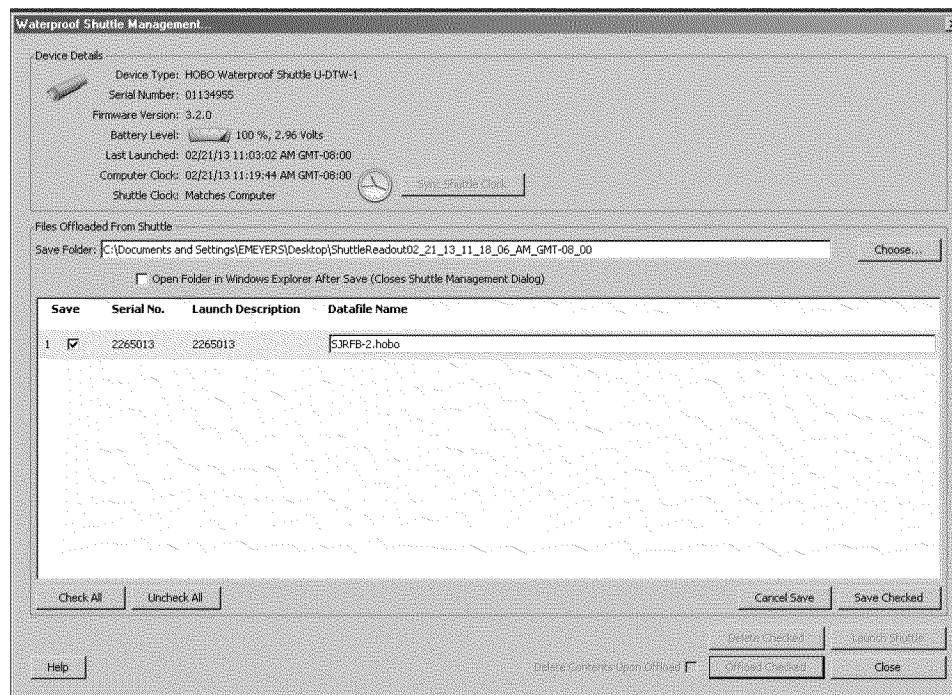

Figure 4-1: HOBOWare Pro® Waterproof Shuttle Offloading Screen
- a. Click on Device→Readout. The Waterproof Shuttle Management box will pop up (Figure 4-1).